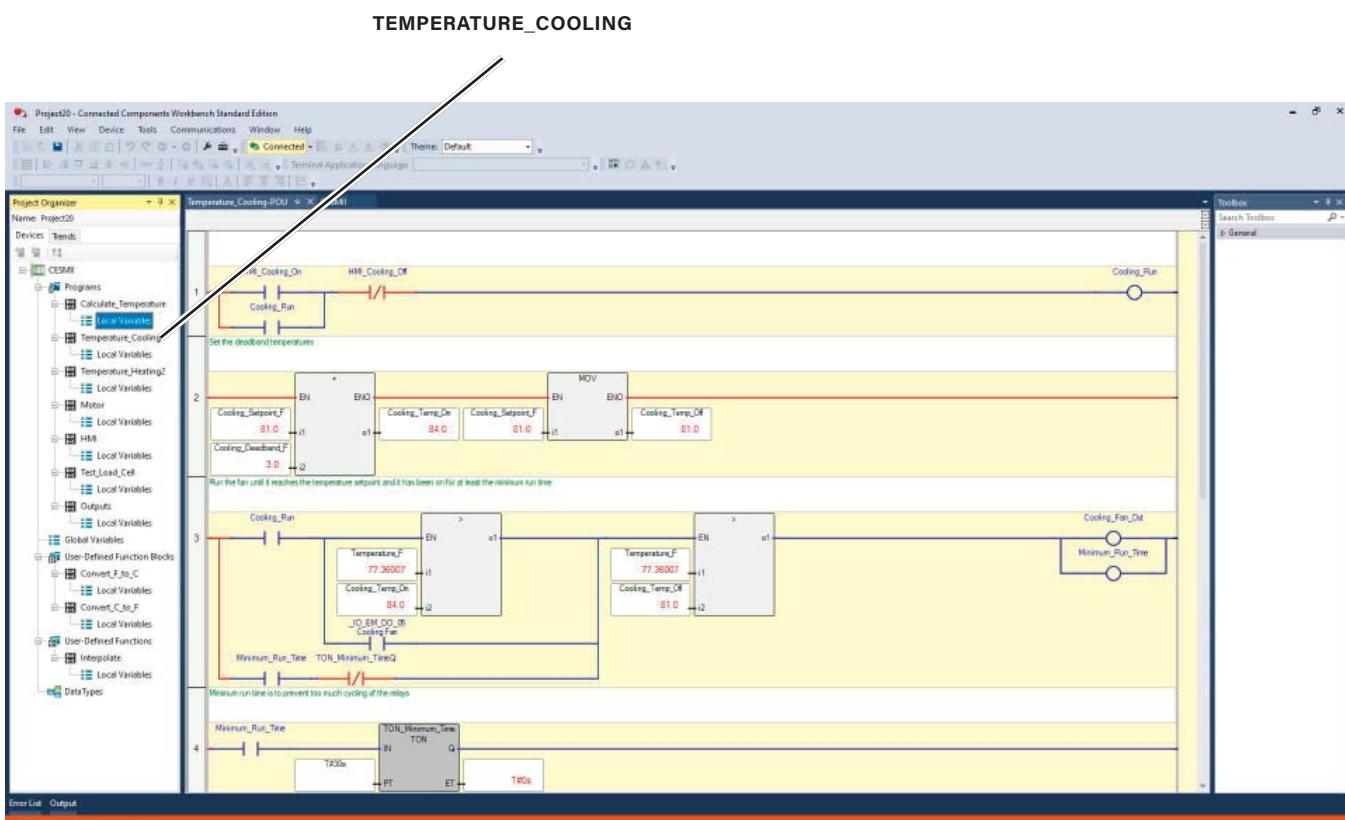

Figure 2-16. CCW Displaying Temperature_Cooling Ladder Logic
- B. Notice that the Temperature_Cooling program window will open as shown in figure 2-16.